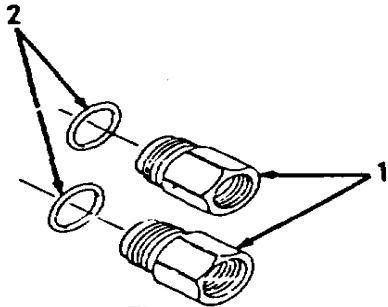

Figure 10-110.
- 11. Install two new preformed packings (2) on adapters (1, Figure 10-110).